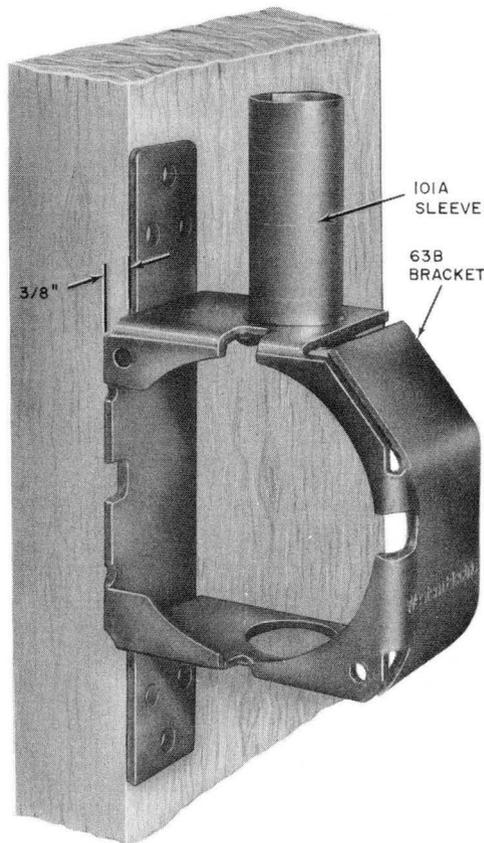

Fig. 32—63B Bracket With 101A Sleeve Installed
2.06.1 The 101A sleeve (Fig. 32) is used to protect the prewiring while the drywall is being cut around the 63B bracket as the drywall is being installed on the studding. The metal tube snaps into either access hole of the bracket before the wiring is placed.
2.002 On Page 20, Fig. 32 is obsolete. A new Fig. 32 is shown in this addendum.
- Fig. 32—63B Bracket